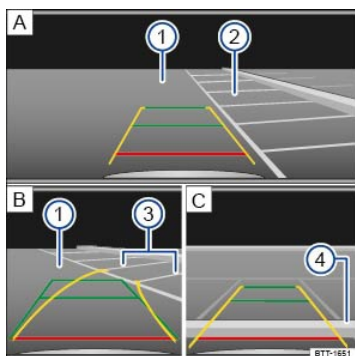

Fig. 138 Orientation lines for perpendicular parking.
Key to ⇒ Fig. 138 :
- Position the vehicle in front of the parking space ⇒ Fig. 138/2 **A**.
- Slowly back up and steer so that the yellow orientation lines lead into the selected parking space ③ **B**.
- Align the vehicle in the parking space so that the green and yellow orientation lines are parallel to the selected parking space ③ **B**.
- Stop the vehicle before (or at the very latest, when) the horizontal red line reaches the rear boundary, for example, a curb ④ **C**.